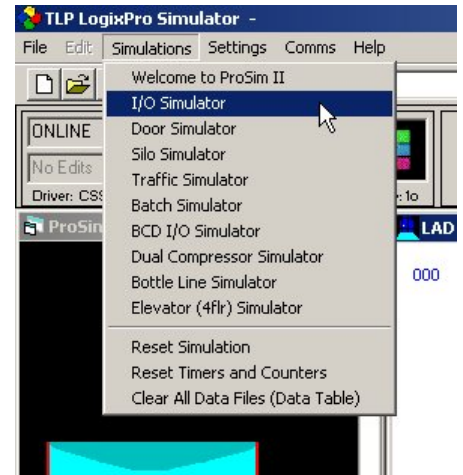
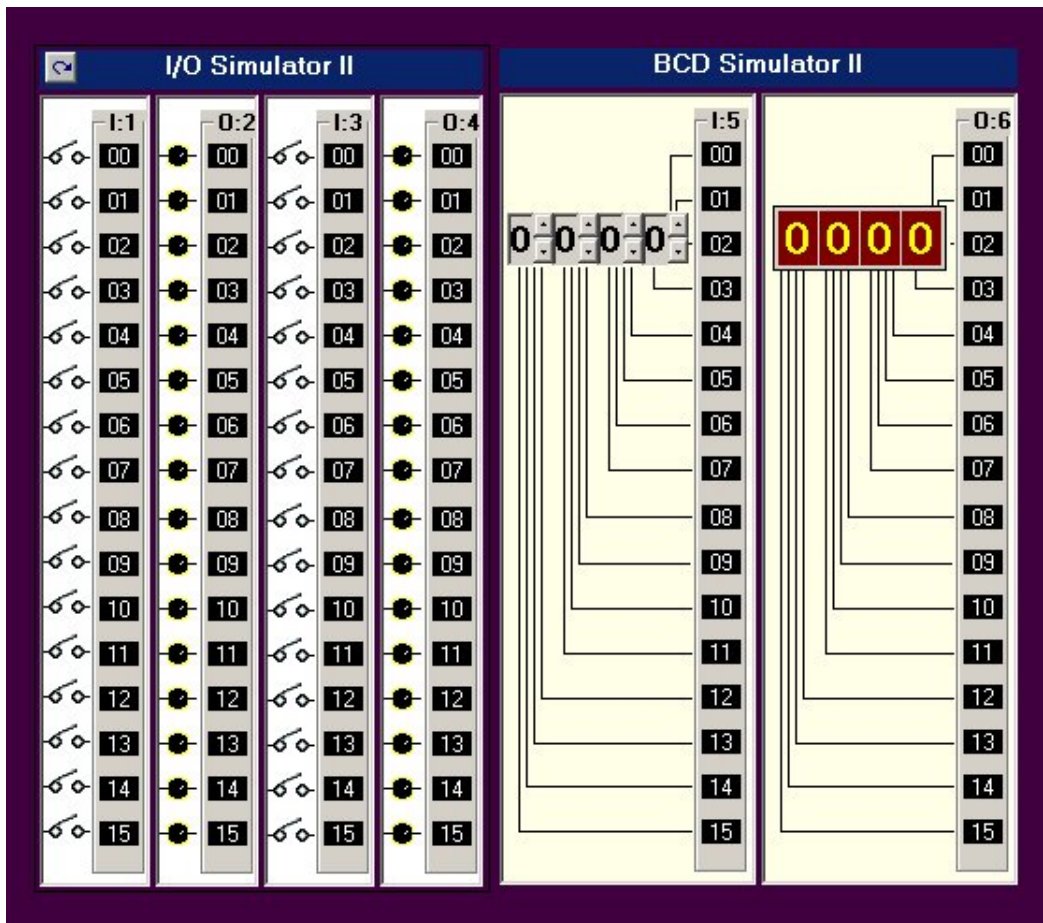

Figure 4
Figure 5
- ❑ Click on the Simulations menu to drop down the menu as shown in Figure 4. Note the available simulations. These simulations will only function with the keyed version of the LogixPro software. Feel free to explore the simulations. These simulations have no function until you write PLC ladder logic to control them. When you are finished exploring the available simulations select the I/O Simulator, then drag the window pane divider to view the I/O Simulator as shown in Figure 5. Dragging the window pane divider in LogixPro is a-bit odd and does not always act like a normal Windows application. Have patience if at first you don't succeed.